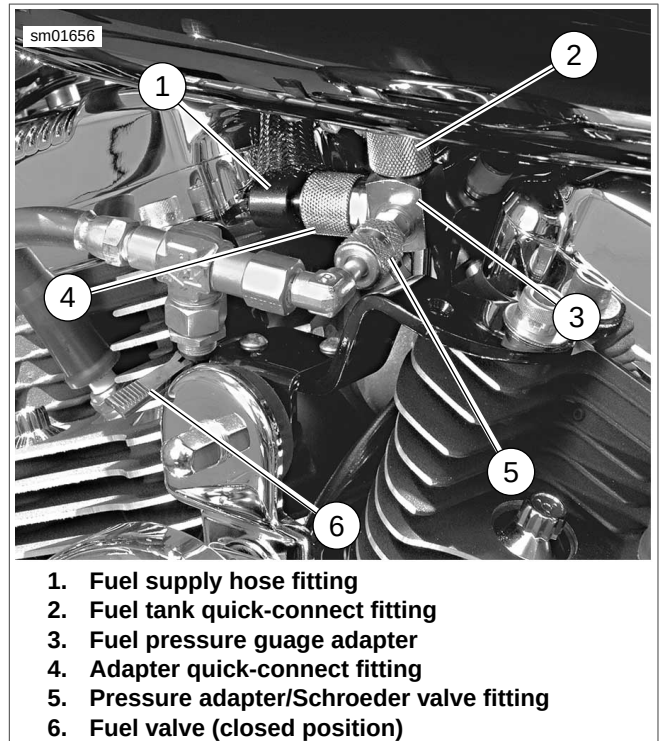

Figure 4-85. Assembling Adapter, Gauge and Fuel Supply Hose to Fuel Tank: All Models (XL 1200C Shown)
- a. See Figure 4-85. Pull up on sleeve of fuel tank quick-connect fitting (2) and insert neck of FUEL PRESSURE GAUGE ADAPTER (3) into quick-connect fitting.
- c. In the same manner, connect vehicle's fuel supply hose fitting (1) to quick-connect fitting (4) on FUEL PRESSURE GAUGE ADAPTER.
3. Verify that the fuel valve (item 6, Figure 4-85.) and air bleed petcock on the FUEL PRESSURE GAUGE (Part No. HD-41182) are closed.